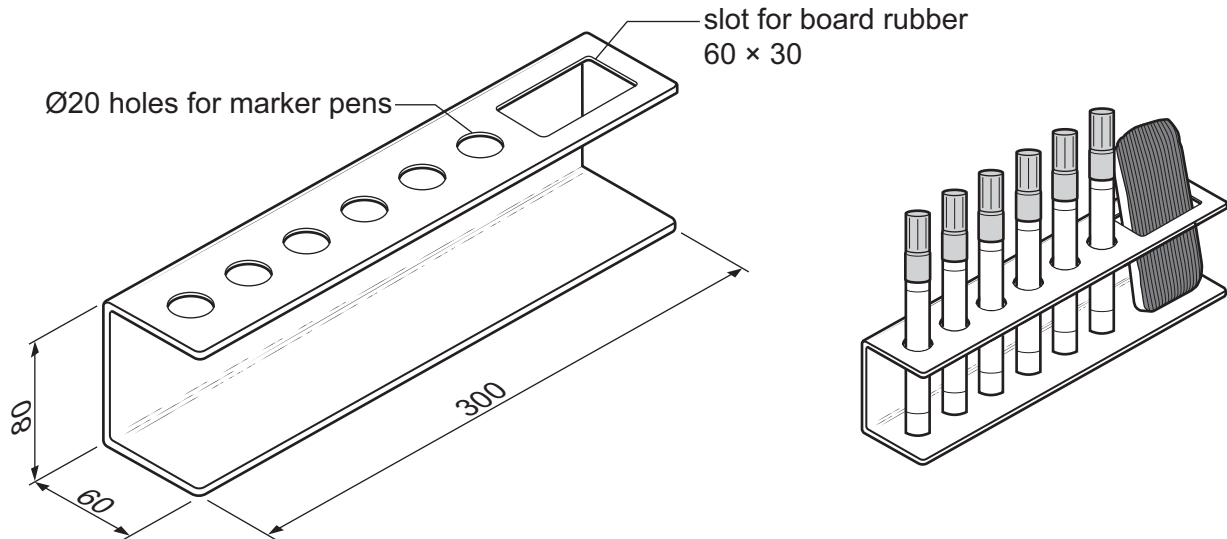

Fig. 11.1
- 11 Fig. 11.1 shows a design for a rack to hold whiteboard marker pens and a board rubber. The rack is made from 4 mm thick acrylic.